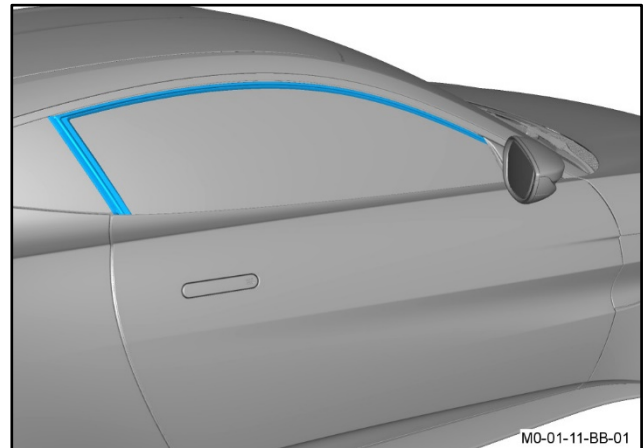

Figure 19
31. Carefully make sure that the door glass aligns to the primary door weatherstrip correctly (refer to Figure 19).